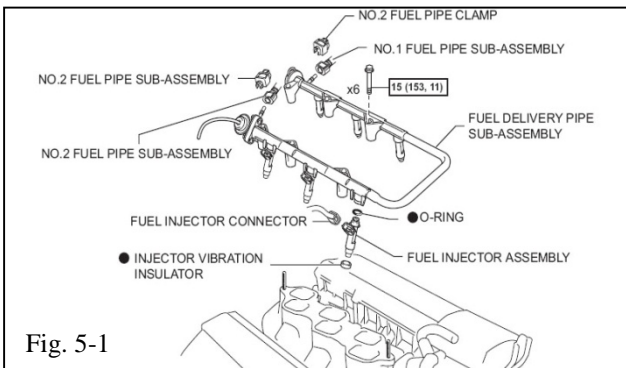

Fig. 5-1
(a) For the No. 1 fuel pipe, remove the fuel pipe clamp (Figs. 5-1 to 5-3).
- (b) Disconnect the 6 fuel injector electrical connectors (Figs. 5-1 & 5-4).
- (c) Remove the 6 bolts and fuel delivery pipe together with the 6 fuel injectors (Figs. 5-1 & 5-4).